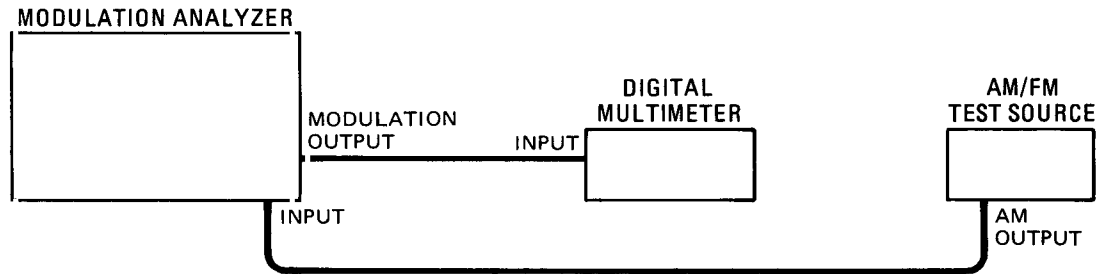

Figure 4-2. Modulation Analyzer Residual AM Verification Test Setup
a. Connect the modulation output of the modulation analyzer to the input of the digital multimeter and the AM output of the AM/FM test source to the input of the modulation analyzer as shown in Figure 4-2. Nothing should be connected to the audio input of the AM/FM test source.